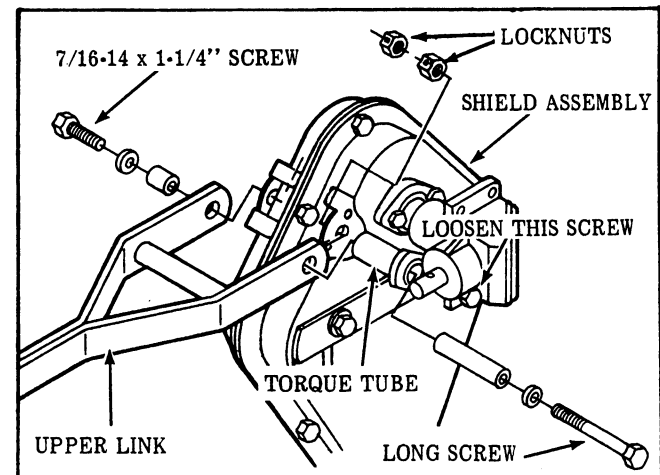

Figure 3
- b. Mount upper link as shown in Figure 3, returning long screw, washer, spacer and lock nut to torque tube, making sure spacer is inserted thru hole in link.